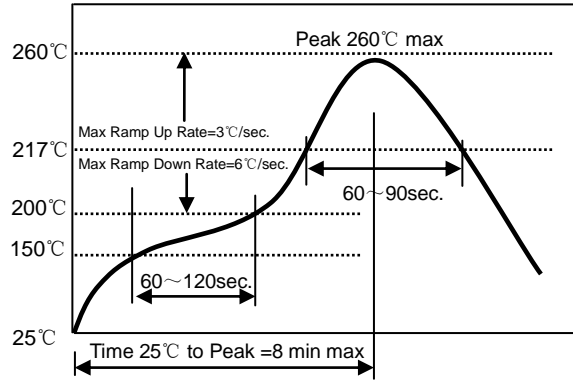

Fig. 8-1
**8.1 Reflowing Profile( Fig. 8-1):**